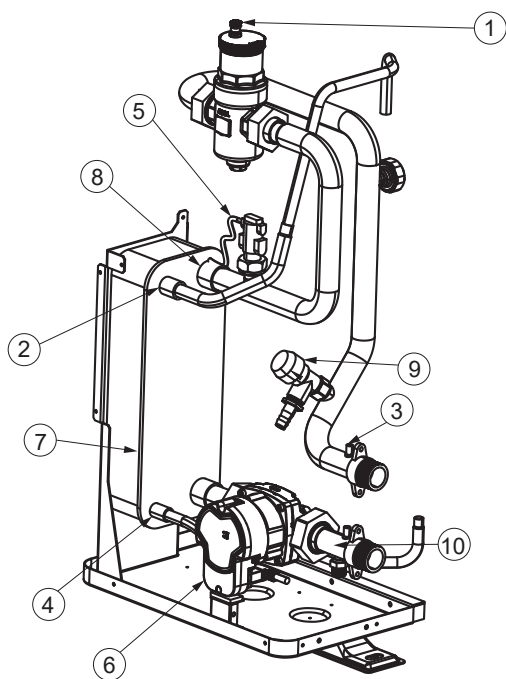

Figure 1-5: Hydraulic module - 4kW
**Table 1-10:** Key items for Figures 1-5 to 1-8